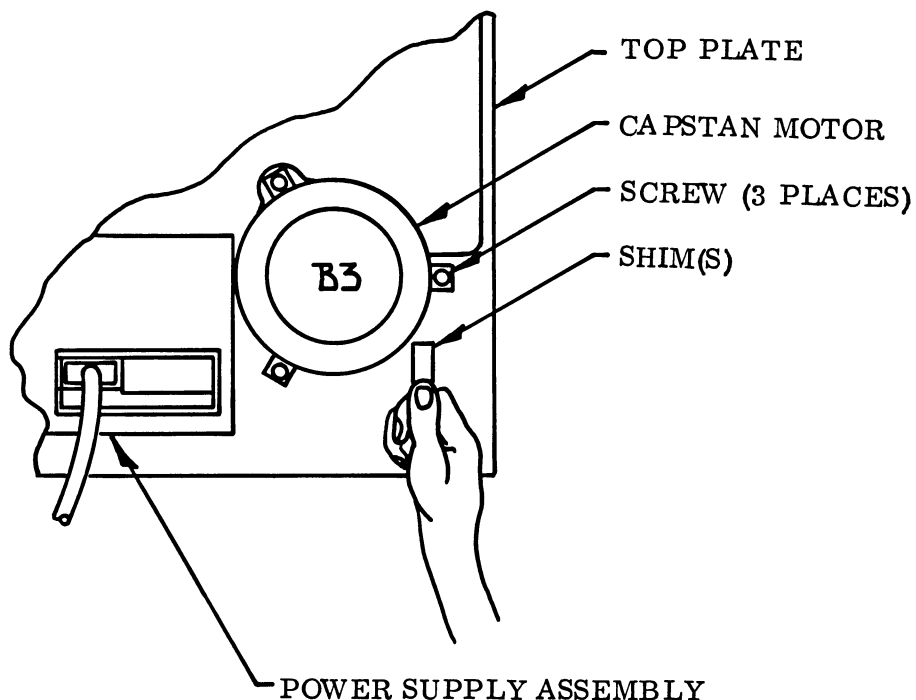

Figure 5-13. Motor Tilt Procedure
- h. If tape shift is observed, capstan motor tilt must be adjusted. If tape moves away from top plate when running forward, capstan sleeve must be tilted away from head and guides. To tilt sleeve slightly, loosen mounting screw farthest from head and guides, and install mylar shim(s) between motor and top plate as shown in Figure 5-13. Adjustment is correct when no shift is visible when tape direction is changed and all screws are securely tightened.
- i. If tape moves toward top plate when running forward, capstan sleeve must be tilted toward head and guides. Slightly loosen two motor mounting screws closest to head and install mylar shim(s) between motor and top plate, centering shims 180° from screw indicated in Figure 5-13. Adjustment is correct when no shift is visible when tape direction is changed and all screws are securely tightened.